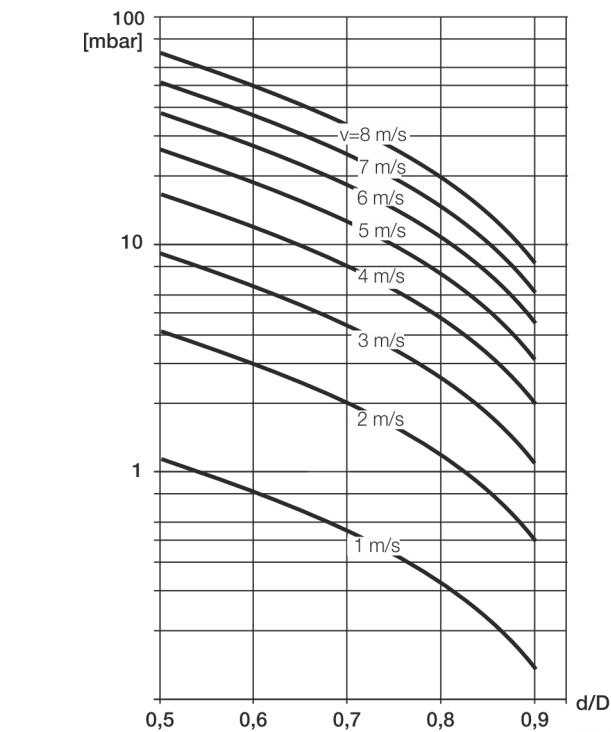

Figure 21: Flow rate nomogram for flange transition piece at $\alpha/2 = 8^\circ$
2. Determine the flow velocity based on the flow rate nomogram (Figure 21).
3. Read the pressure loss on the Y-axis in Figure 21.